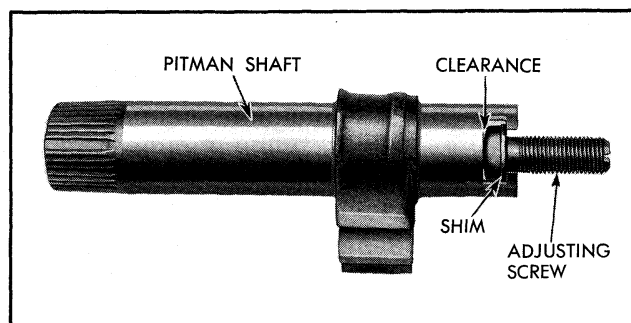

Fig. 9-27 Pitman Shaft and Adjusting Screw
6. Install pitman shaft adjusting screw and selective shim in pitman shaft (Fig. 9-27).